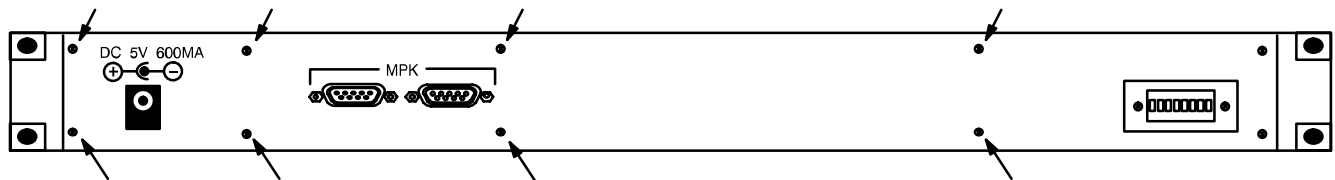

Figure Q-1.
2. Remove eight screws from rear of control panel as indicated in Figure Q-1.